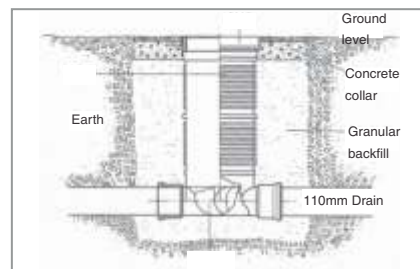

**Figure 2**
General installation figures are provided herewith for different type of installation mainly based on traffic loads which are going to impose on system. Fig. 1 is for installation of 450mm chamber base with durable polypropylene cover and frame having wheel load up to 3.5 tonnes. Suits pedestrian areas / domestic driveways. Fig. 2 is for installation of 450 mm chamber base with RCC cover and frame having wheel load up to 20 tonnes. Suits heavy traffic loads. Fig. 3 is for installation of 315 mm chamber base.
- The chamber base should be bedded with suitable granular material or single size aggregates having no sharp edges on 100 mm depth for light traffic load conditions. For heavy traffic load conditions (Fig.1 & Fig.3), the base should be surrounded by concrete as shown in Fig. 2.